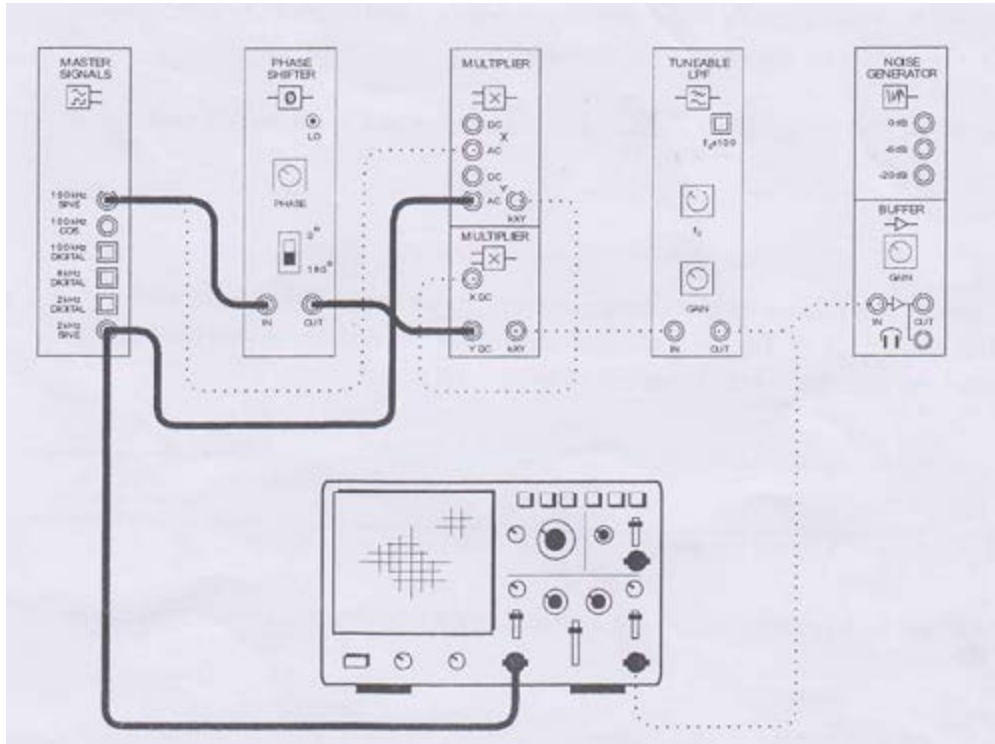

Figure: 10
28. Modify the set-up as shown in Figure 10 below.